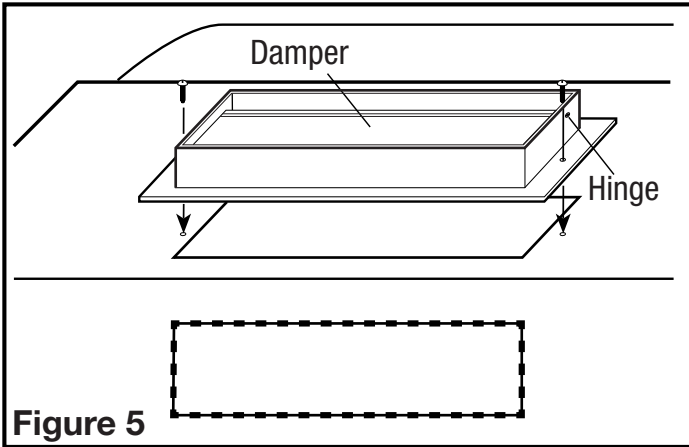

Figure 5
- For vertical or horizontal ducting, install the appropriate damper assembly to the hood by placing the assembly over the opening and securing in place with the provided screws (Figure 5). If using the 3-1/4" x 10" damper, make sure the damper hinge is towards the front or the top of the hood to ensure the best possible performance.